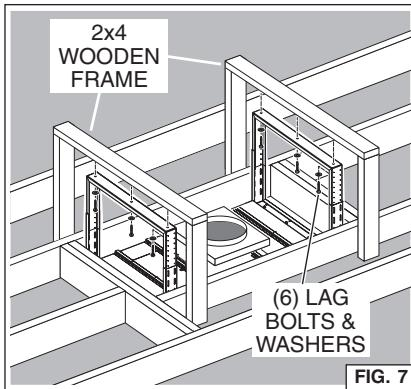

FIG. 7
2. Secure each support frame to the wooden hood support frame using (6) 6 x 70 mm lag bolts and washers provided. Fig. 7.